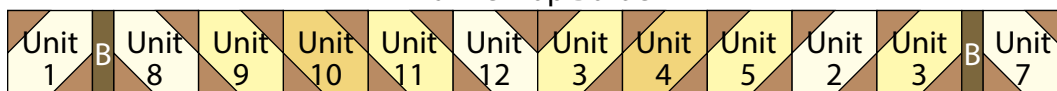

Fig. 25
14. Sew together (10) assorted Unit squares. Sew (1) 1 ½" x 4 ½" Fabric B strip to each end of the newly sewn strip. Sew (1) Unit 1 square to the left end of the newly sewn strip and (1) Unit 7 square to the right end to make the Runner Top Border (Fig. 25 below).